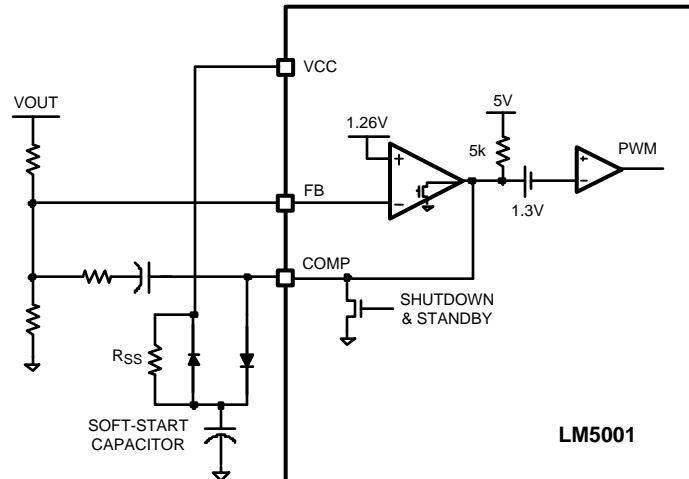

Figure 20. Soft-Start
Internal Thermal Shutdown circuitry is provided to protect the IC in the event the maximum junction temperature is exceeded. When the 165°C junction temperature threshold is reached, the regulator is forced into a low power standby state, disabling all functions except the VCC regulator. Thermal hysteresis allows the IC to cool down before it is re-enabled. Note that since the VCC regulator remains functional during this period, the soft-start circuit shown in Figure 20 should be augmented if soft-start from Thermal Shutdown state is required.
Soft-start (SS) can be implemented with an external capacitor connected to COMP through a diode as shown in Figure 20. The COMP discharge MOSFET conducts during Shutdown and Standby modes to keep the COMP voltage below the PWM offset (1.3V), which inhibits PWM pulses. The error amplifier will attempt to raise the COMP voltage after the EN pin exceeds the 1.26V standby threshold. Because the error amplifier output can only sink current, the internal COMP pull-up resistor (~5 k $\Omega$ ) will supply the charging current to the SS capacitor. The SS capacitor will cause the COMP voltage to gradually increase, until the output voltage achieves regulation and FB assumes control of the COMP and the PWM duty cycle. The SS capacitor continues charging through a large resistance, RSS, preventing the SS circuit from interfering with the normal error amplifier function. During shutdown, the VCC diode discharges the SS capacitor.